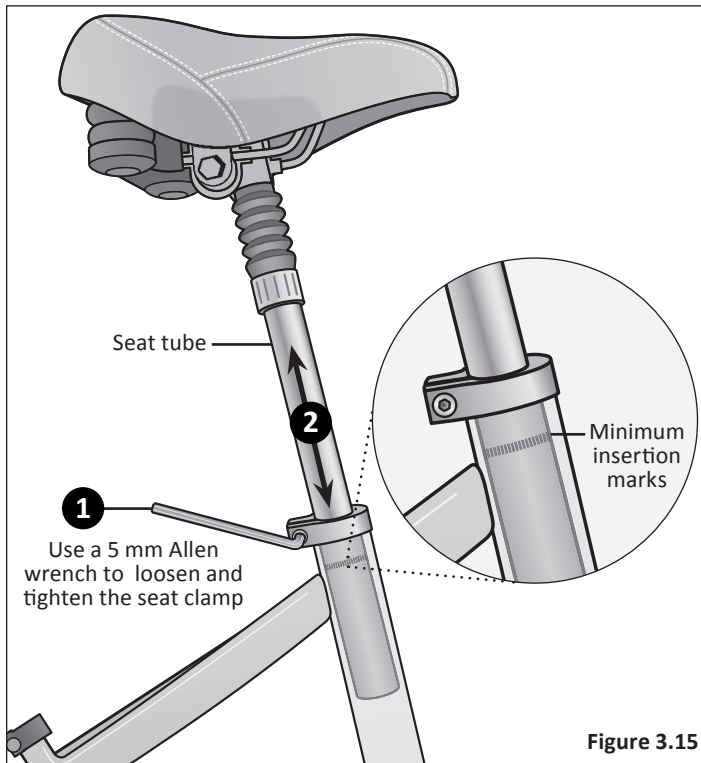

Figure 3.15
- ❶ Using a 5 mm Allen wrench, loosen the seat clamp bolt and insert the seat post into the seat tube. **Figure 3.15**
- ❷ Adjust the seat height up or down until the rider feels they have control of the bicycle and is comfortable.